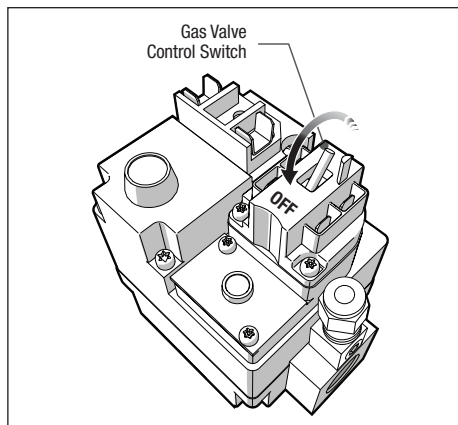

Figure 32. Gas Valve
- Toggle gas control switch to OFF position. See *Figure 32*.
- Wait five (5) minutes to clear out any gas, then smell for gas, including near the floor. IF YOU SMELL GAS, STOP! Follow instructions in **What To Do If You Smell Gas** (see *Section 1.1, Safety Instructions*).